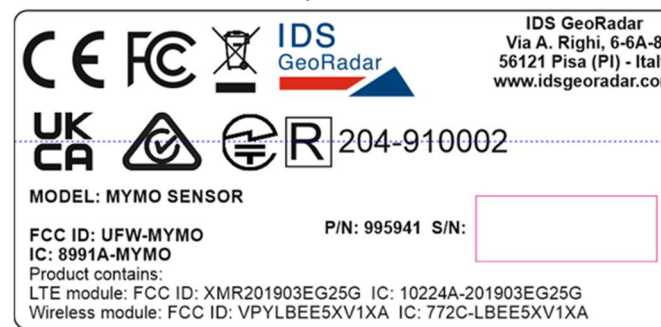

Fig. 8 Example of an IDS GeoRadar system label
IDS GeoRadar, implements an internal ticket system to handle the repair of its Products worldwide. In this respect, for the global IDS Customer Support to be able to troubleshoot in case of need, it is necessary to identify the system first hence, it is mandatory providing information including Serial number and Product Number of the system or part of it that needs repair. This information may be found on a label placed on top of the system (e.g.: inside the battery housing, on top of the antenna, on the side of the rudder, on top of the SCU, etc...). An example of this label is illustrated in Fig. 8.
- a. Type of System or part of it (defined by Product Number or Article number, that is PN 1023280 in Fig. 8)
- b. Serial Number (SN 010-25-123456, in Fig. 8)